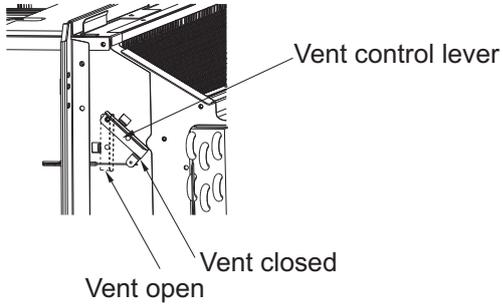

Fig.6
- Rotate the vent control lever to either open or close the vent door.(See Fig.6)
- Rotate the vent control lever to open the vent door. (See Fig.6)